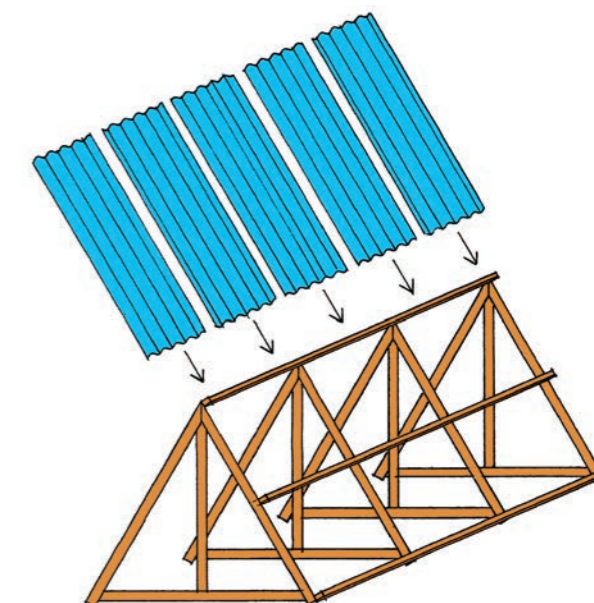

Figure 8
The section on trusses that follows introduces the names of the various parts of the trusses, and these parts need to be emphasised, as the learners will need to know them to understand and identify the various stresses, which they will now learn about. This starts with **tensile forces**. Figures 8 and 9 show how models can be constructed to illustrate the concept.
4. What part of the roof trusses shown here will prevent them from tearing apart when the roof sheets are loaded onto them? Show your partner this part on one of the roof trusses on Figure 8.